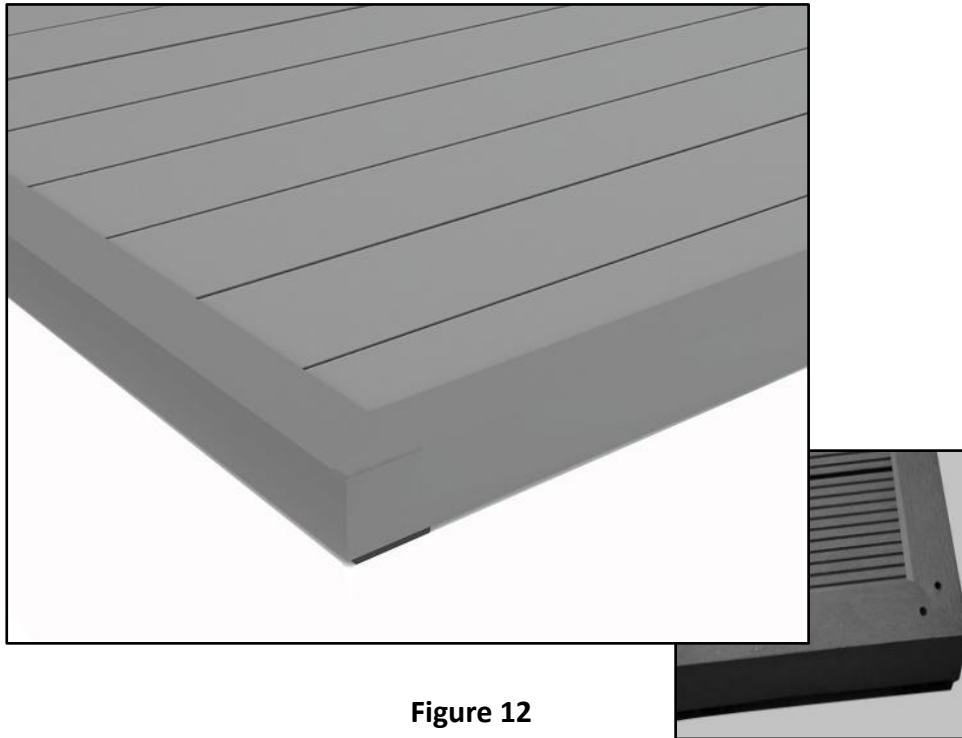

Figure 12
- 7 There are 2 kinds of edge cover optional. As shown in figure 12 and 13.